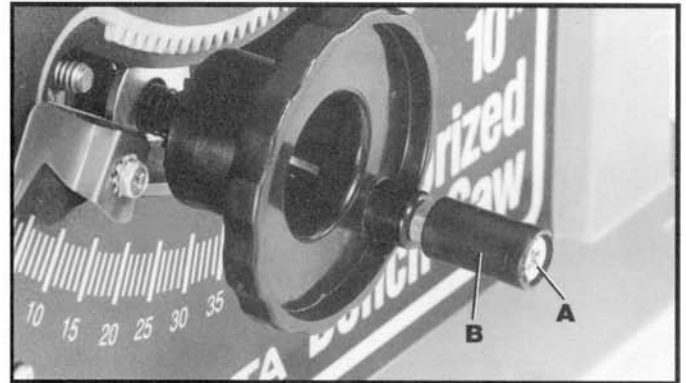

Fig. 3
2. Thread screw (A) Fig. 3, into tapped hole in handwheel, as shown.
3. When properly assembled, the handle (B) Fig. 3, will rotate freely with only a small amount of play.